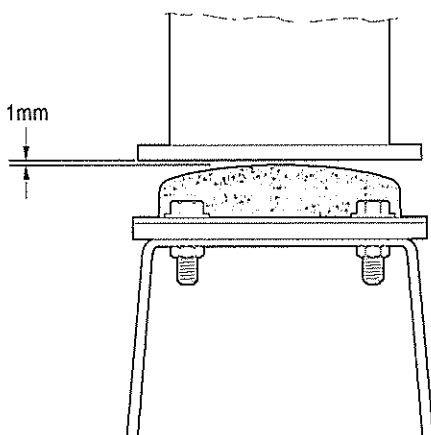

Fig 26 Body support rubber buffer
28.7 Fit rubber buffer and plate to vehicle support. Select thickness of plate such that 1 mm of play exists when vehicle is unladen (see Fig 26).
30.3 Select adjustment plate such that 1mm of play exists between vehicle and buffer when vehicle is unladen (see Fig 26).